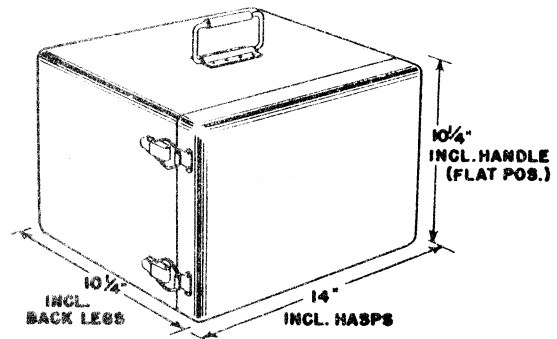

Figure 3-2. RF Signal Generator Set AN/URM-25C, Outline Dimensional Drawing
(1) Antenna Simulator SM-35/URM-25, (5:1) Fixed Attenuator CN-132/URM-25, (10:1) Fixed Attenuator CN-136/URM-25, Impedance Adapter MX-1074/URM-25, Test Lead CX-1363/U, Coaxial Adapter UG-201/U, Connector Adapter UG-684/U, and Instruction Book will be found on the inside of the panel cover. An aluminum plate with ferrule clips is provided for mounting these units.
(2) Power cable W-101 and output cables W-104, W-105, W-106 are also mounted on this aluminum plate.
c. Dimensions of the signal generator are shown in Figure 3-2.